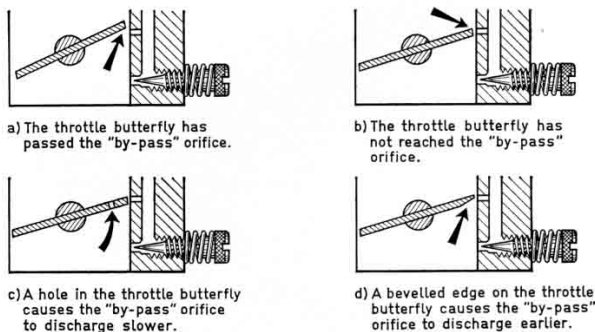

Fig. 18 Throttle butterfly and by-pass orifices
- the throttle butterfly has passed the "by-pass" orifice and the main jet has not yet started to operate (fig. 18 a) or
- if to the contrary, the throttle butterfly has not yet reached the "by-pass" orifice (fig. 18 b).
If the "by-pass" orifice is desired to operate only with a wider opening of the throttle butterfly a hole drilled in the edge of the throttle butterfly should prove satisfactory. This enables the throttle butterfly to be closed slightly more when idling (fig. 18 c). This arrangement is a satisfactory remedy in case a).
If the "by-pass" orifice is intended to operate with a smaller throttle butterfly opening a small amount should be filed off the lower edge of the throttle butterfly on the side nearest the "by-pass". This brings the edge of the throttle butterfly nearer to the "by-pass" (fig. 18 d). In this manner it is possible to help in case b).